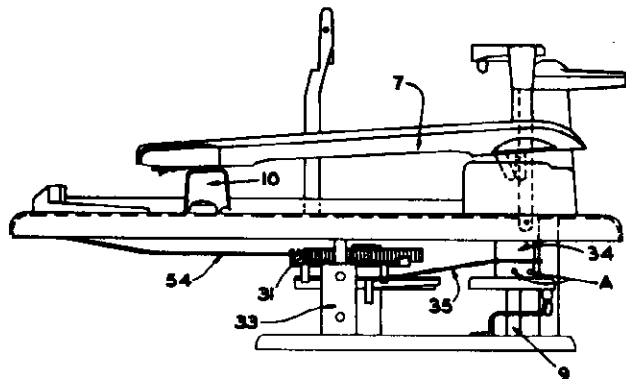

Fig. 3
2. Set the Record Shelf (4) to the 10" position.
4. Be sure the notch in the Pickup Arm Raising Disc (36) engages the Pickup Arm Raising Lever (37).
5. The No. 8 Bristol set screws "A" of the Pickup Arm Raising Disc (36, Fig. 3) have pointed ends which fit into off center holes in the Pickup Arm Pivot (9). Alternately loosen one screw and tighten the other until the needle rests above the record lead-in groove at the desired point. Be sure that both set screws are tight when this adjustment is completed.
6. Complete the change cycle of the mechanism and place the pickup arm on the Pickup Arm Rest (10). The tongue of the Pickup Arm Raising Disc (36) should now rest against the post which supports the sub plate assembly. If the pickup arm does not rest in the proper position on the pickup arm rest, bend the tongue closer to or away from this post until the pickup arm is correctly positioned.
The upturned end of the Pickup Arm Pivot Shaft Bracket (Fig. 3) prevents the Pickup Arm from falling off the Pickup Arm Rest. There should be $\frac{1}{64}$ " clearance between the tongue of the Pickup Arm Raising Disc (36) and the bottom of the groove